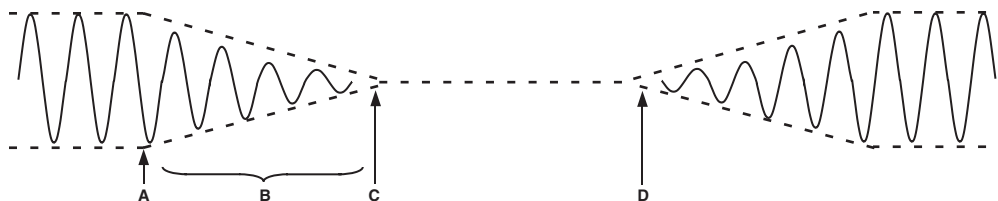

Figure 18. Recommended Sequences for Complete Parameter or Program RAM Uploaded Using Shutdown Mechanism
When writing large amounts of data to the program or parameter RAM, the processor core should be halted to prevent unpleasant noises from appearing at the audio output. Figure 18 shows a graphical representation of this mechanism's volume envelope. Points A through D are referenced in the following description. Bit 10 in Serial Control Register 0 (processor shutdown bit) will shut down the processor core. When the processor shutdown bit is asserted (A), an automatic volume ramp-down sequence (B) lasting from 10 ms to 20 ms will occur, followed by a shutdown of the core. This method of shutting down the core prevents pops or clicks from occurring. After the shutdown is complete, Bit 1 in Control Register 1 will be set. The user can either poll for this bit to be set or just wait for a period longer than 20 ms.